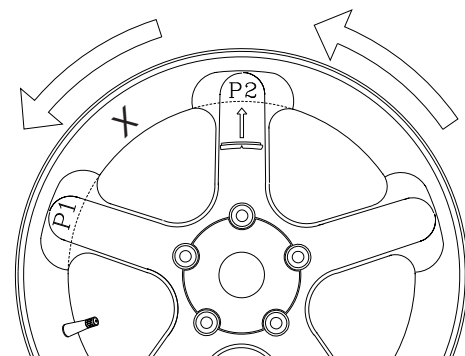

Figure 35
7. The display will read “**SPO 2** “. Locate the second closest spoke to top dead center and rotate the wheel to the top dead center position, press **F** Button again to store the position. See Figure 35.